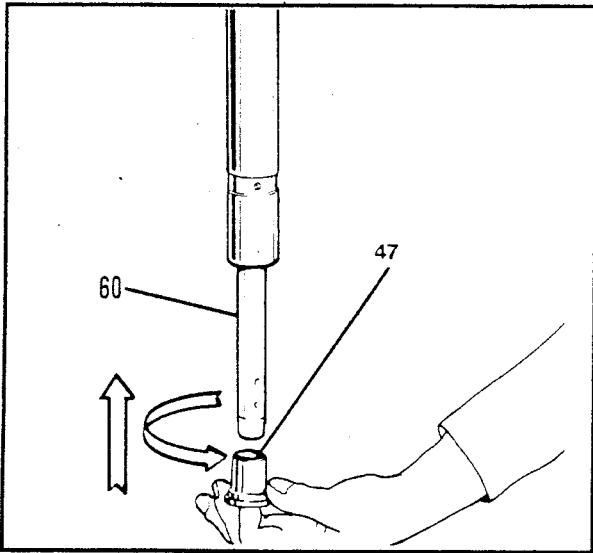

Figure 5-21. Damper Rod Seat Reassembly
5. See Figure 5-21. Assemble the damper tube seat (47) onto the damper tube (60). Be sure it is fully seated.